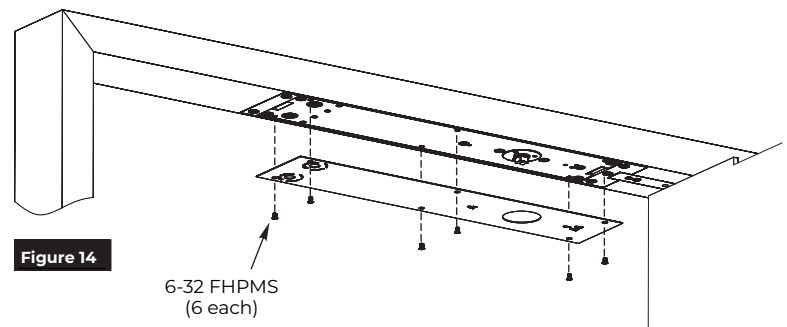

Figure 14
1. Install cover plate to closer body with six (6) 6-32 x 1/4" machine screws. (Figure 14)